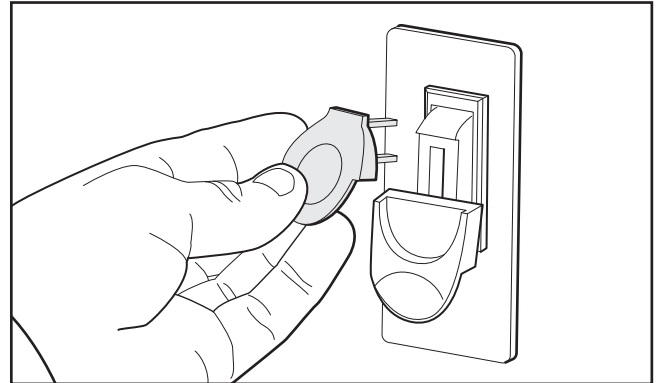

Figure 18. Removing switch key from paddle switch.
5. Remove the switch disabling key, as shown in **Figure 18**.